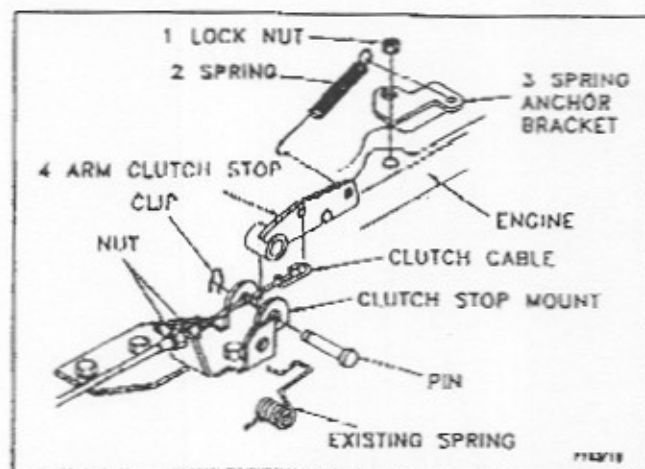

Figure 1.
2. Remove Clip Pin, Clevis Pin and existing Spring, save Clip and Clevis Pin. Discard existing Spring. See figure 1.
3. Assemble Clutch Stop Arm to Clutch Stop Mount with Clevis Pin and Clip Pin. See figure 1.
4. Assemble Spring Anchor Bracket to Engine. (remove nut, lock washer on engine and assemble the bracket to engine with Lock Nut.) See figure 1.
5. Assemble Clutch Cable to Clutch Stop Arm. See Figure 1.
6. Assemble Spring to, Clutch Stop Arm and Spring Anchor Bracket. See figure 1.